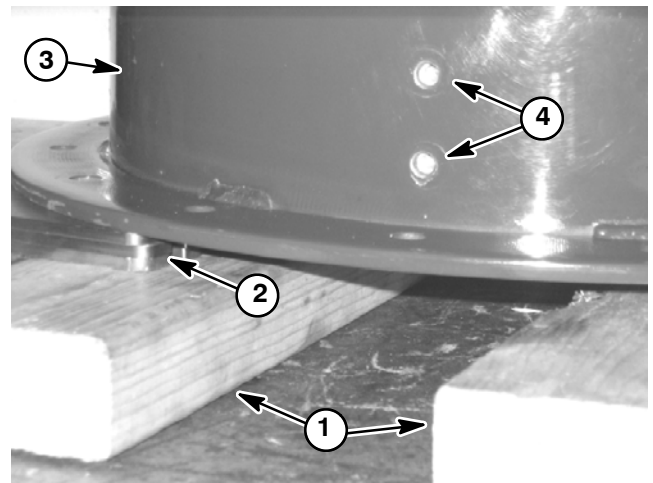

Figure 12
9. Place inner housing on two (2) wood planks (2" x 4" or equivalent). Then, place 9/16" (14.3 mm) thick support between planks and outer housing (Fig. 12). This process will support fan housing assembly to prevent unexpected shifting of any components during disassembly.
10. Loosen, but do not remove, eight (8) flange head screws (item 14) that secure inner housing flanges to outer housing.
11. Remove flange head screw (item 12) that secures each stator vane (item 9) to outer housing. Carefully tilt vane to free vane lugs from inner housing and remove vane from assembly. Repeat for all twenty four (24) vanes. Inspect each vane to make sure that mounting lugs and screw threads are in good condition. Replace any vane that shows signs of damage or wear.
2. Place inner housing assembly with the rotor shaft pointing upwards onto two (2) wood planks (2" x 4" or equivalent). Carefully lower outer housing around inner housing assembly. Then, place 9/16" (14.3 mm) thick support between planks and outer housing (Fig. 12). This process should allow alignment of mounting holes in inner housing flanges to outer housing.